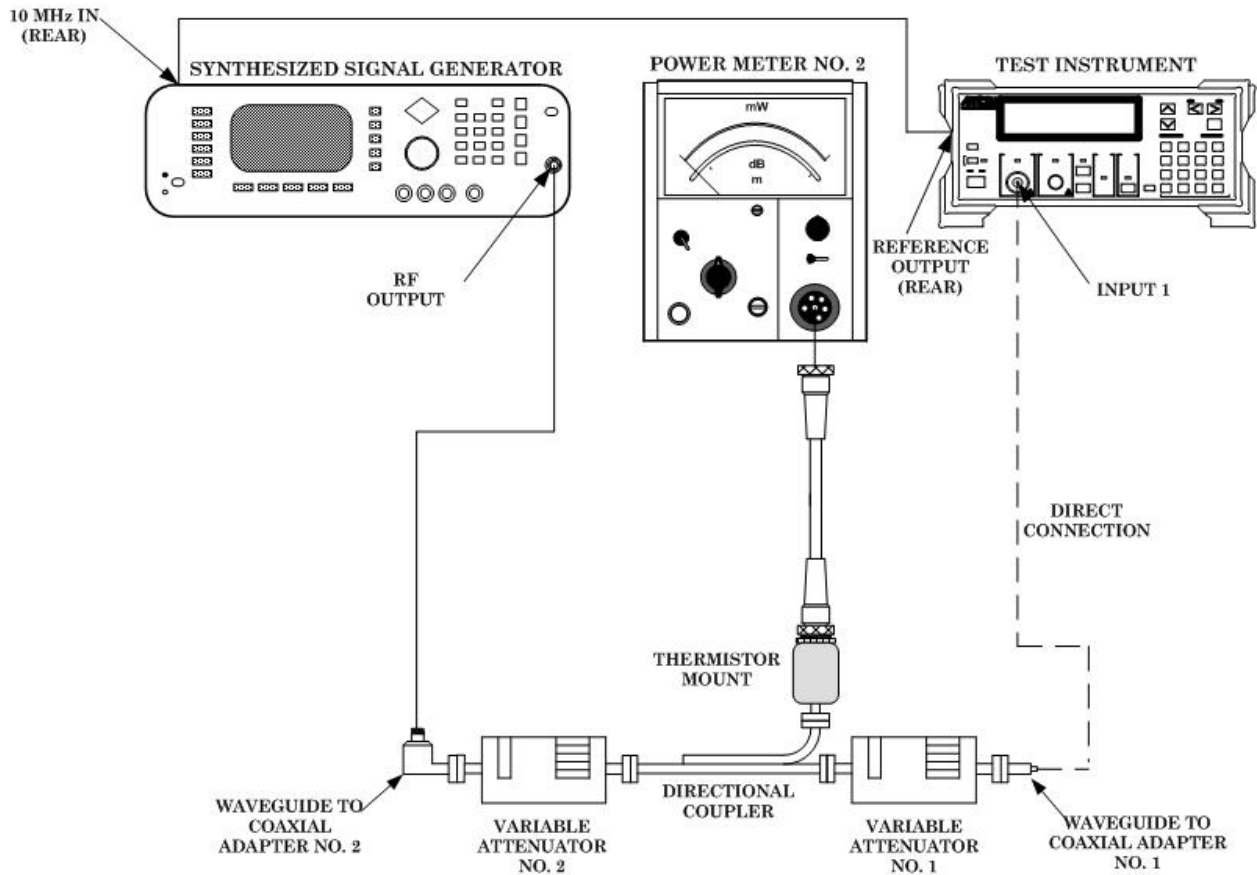

Figure 5 Sensitivity test (26.5 to 40 GHz) - equipment setup.
- (1) Connect equipment as shown in figure 5.
- (2) Set variable attenuator no. 1 to 0 dB.
- (3) Adjust synthesized signal generator frequency to 26.5 GHz.
- (4) Adjust synthesized signal generator RF output controls and variable attenuator No. 2 controls for a power meter no. 2 indication of -10 dBm.
- (5) Slowly increase variable attenuator no. 1 attenuation until TI loses stable count.
- (6) Slowly decrease variable attenuator no. 1 attenuation until TI just begins to indicate a stable count.
- (7) Add directional coupler actual coupling factor from correction chart to power meter no. 2 indication and record sum.
- (8) Subtract 0.5 dB (waveguide to coaxial adapter insertion loss (max)) from variable attenuator no. 1 corrected value and record difference.
- (9) Subtract difference recorded in (8) above from sum recorded in (7) above. If the difference is not at least the minimum value listed in table 11, prepare a test report and record actual sensitivity value for test frequency.
- (10) Repeat technique of (2) through (9) above for the remaining frequencies listed in table 11.